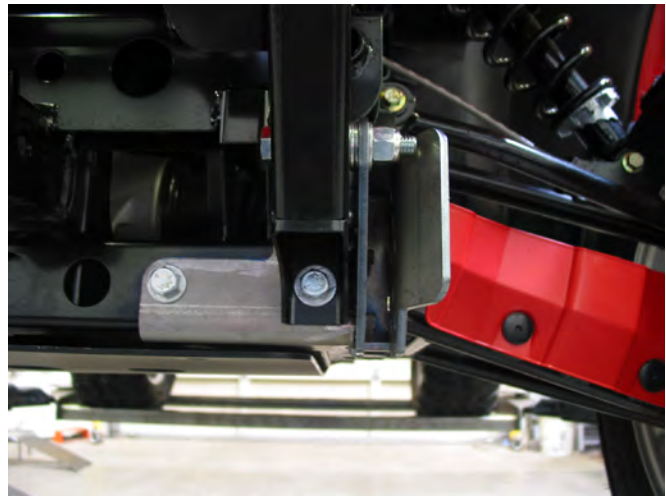

Figure 4
- Place plow mounts (A1,A2) into position. See figure 4. Install fasteners (B1,B2,B3) (B4,B5,B6,B7) as shown in the parts list. Do not tighten at this time.